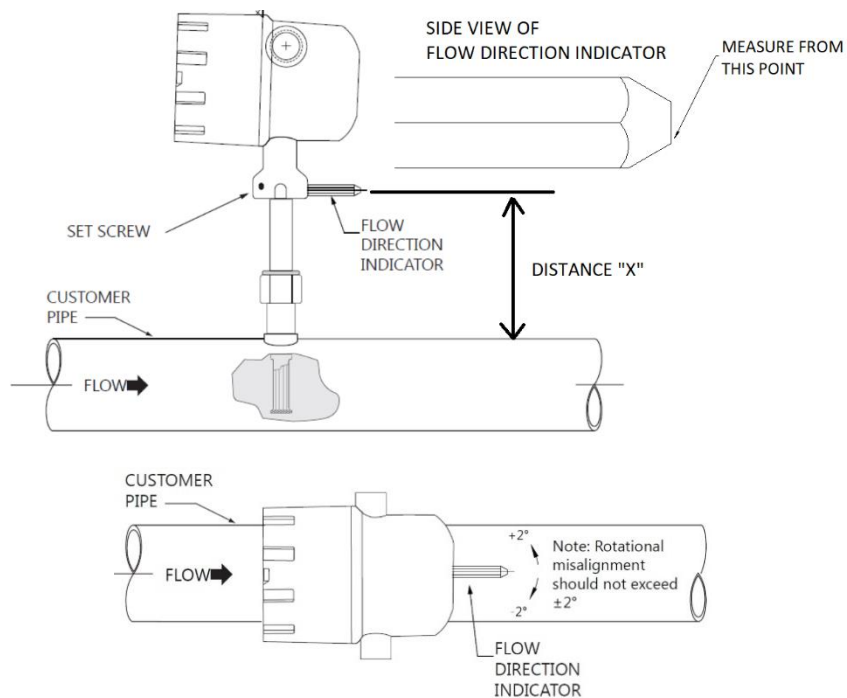

Figure 6: Meter Inserted into Pipe
6. For insertion type meters - insert the meter sensing tube into the tube fitting. Using Table 1 and Figure 6, center the meter's sensing element in the pipe by setting distance "X" (distance from the outer diameter of the pipe to the bottom of the pointer edge). This can be done carefully with a tape measure. Ensure that the pointer on the flow meter is pointing in the direction of flow.
Note: Once the “nut” end of the tube fitting is tightened, the stainless steel ferrules will swage or bite into the meter’s probe. This swaging is permanent - ferrules are extremely difficult to remove from probe after swaging. Make absolutely sure that distance “X” shown in Figure 6 above is set correctly before the tube nut is tightened.
12. Install the flow meter per Figure 6, ensuring that the flow direction indicator is pointing in the direction of flow +/- 2 degrees. The insertion depth for the meter probe is pre-set for the inline meters. Tighten the tube nut hand tight, and then use the 1-1/8" open end wrench to tighten the tube nut approximately 1/3 to 1/2 a turn (120 to 180 degrees) beyond hand tight. The flow meter is now installed into the spool piece
13. It may be necessary to rotate the housing of the flow meter relative to the flow direction indicator. To do this loosen both of the 2.5mm set screws and unscrew (remove) the hexagonal flow direction indicator using the 8mm open end wrench. These pieces are detailed in Figure 6. Rotate the housing +/- 90 degrees or 180 degrees. Do not spin the housing around completely (360 degrees repeatedly) due to wires connecting the probe to the housing. Re-install the flow indicator and then tighten set screws.